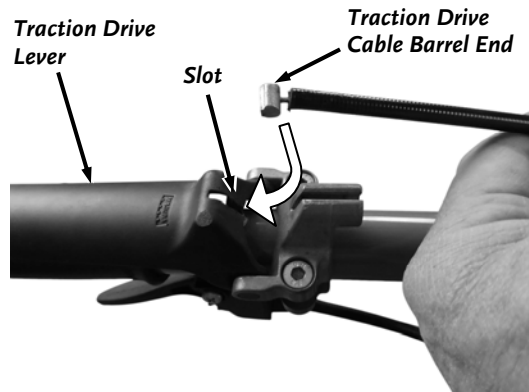

Figure 8
8. Install the Barrel end of the Drive Cable into the slot in the Traction Drive Lever (**Figure 8**). Use a Flat Head Screwdriver to push the Barrel end under the Lever so the Cable can slide up into the slot.